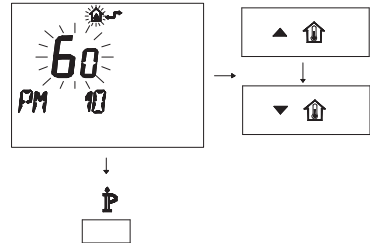

Fig. 7.39
- To modify the programmed SET, act on buttons **▲** and **⏮** or **▼** and **⏮** and wait for the number programmed to flash (Fig. 7.39).